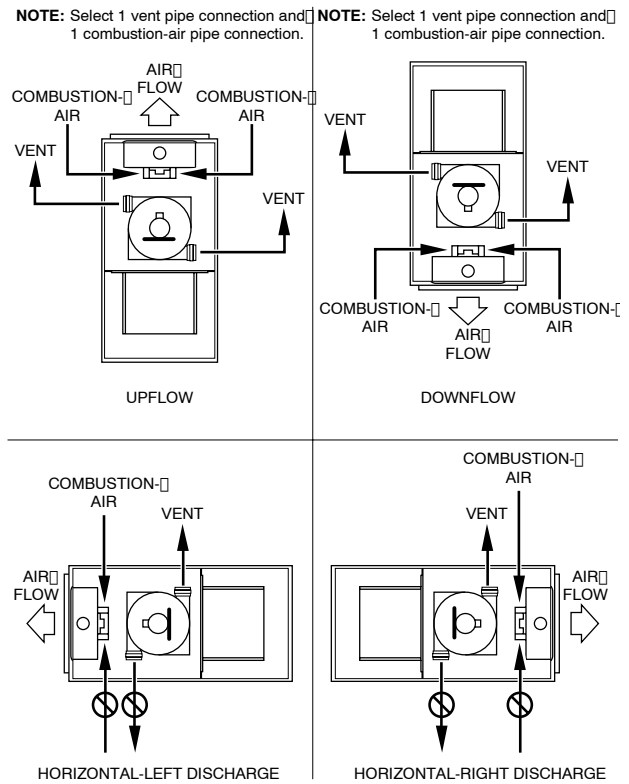

Fig. 39 - Combustion Air and Vent Pipe Connections
Furnace combustion-air connection must be attached as shown in Fig. 39. Combustion-air intake housing plug may need to be relocated in some applications.
1. Determine location of combustion-air intake pipe connection to combustion-air intake housing as shown in Fig. 39 for application.
5. Insert assembled combustion air inlet pipe into intake housing as shown in Fig. 39.
Combustion air pipe must terminate outside the structure with the vent pipe as shown in Fig. 36. Follow the clearance requirements shown in Fig. 39. Refer to Vent Termination section for complete details on termination options.
Furnace vent connection must be attached as shown in Fig. 39.
1. Determine location of vent pipe connection to inducer housing as shown in Fig. 39 for application.